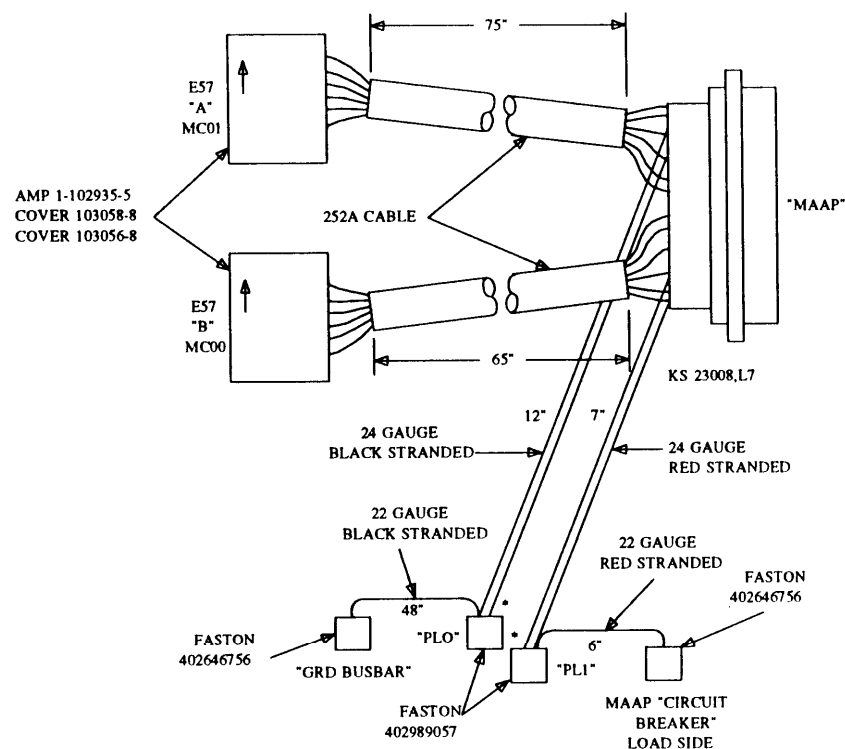

Figure 12-43. ED-E1434, Group 96 Cable
Connect ED-1E434, Group 96 cable (figure 12-43) from **MAAP** on the ED-1E469, Group 2 Extended MAAP Bracket (figure 12-20) to connector **E57** on the backplanes of both module control carriers with legs E57A and E57B. Leg E57B connects to module control carrier (00), and leg E57A connects to module control carrier (01). Leg E57A is used for duplicated module control systems only.
Install the other legs from the ED-1E434, Group 96 cable from **MAAP** on the Extended MAAP Bracket to **PL0, PL1, Bus-Bar Ground**, and the MAAP Circuit Breaker **Load Side**, respectively, for each remote module as shown in figure 12-43 and table 12-23.